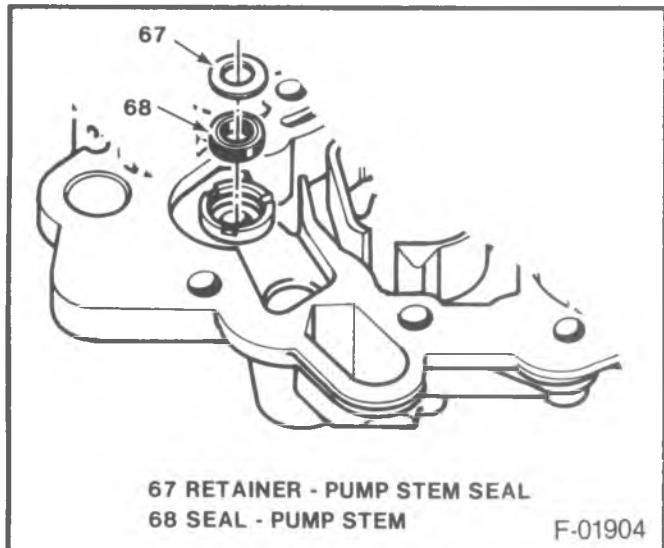

Figure 23 -- Pump Stem Seal
-  Remove or Disconnect (Figure 23)
- Pump stem seal (68).
- Use small screwdriver to remove the seal retainer (67).